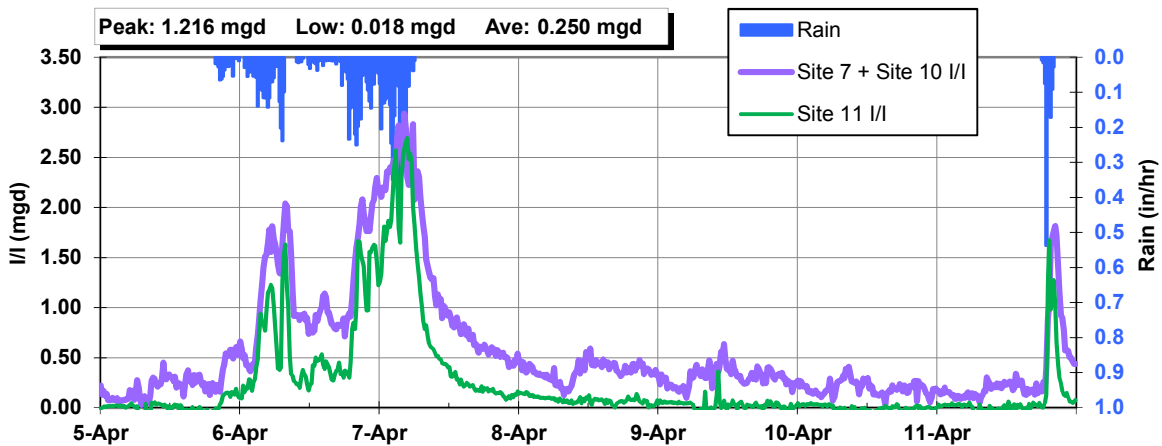

Figure 3-14. Site 7 + Site 10 I/I Analysis, Event 3
- Site 7, 10, and 11: at Site 11 there was one main effluent flowing at approximately 80% d/D, and another effluent/overflow that would have been activated at approximately 13 inches channel flow depth (Photo 3-7). This overflow most likely goes to Site 10 or may route back to Site 7. The flow data shows that some overflow went to Site 10; Site 7 has a truncated peak flow less than the upstream Site 11 flow (Figure 3-13). Using synthetic hydrographs of the previous and smaller rainfall I/I response makes it more apparent that this was not simply an attenuation effect and hypothesizes what Site 7 flows could have been if there was no overflow. Basin 7 and Basin 10 was combined for I/I analysis to gain insight into their I/I rankings (Figure 3-14).
- Only when Site 7 and Site 10 I/I were combined was the peak I/I rate higher than upstream Site 11 peak I/I rate (Figure 3-14). Basins 7 and 10 had a low inflow rate when isolated from Basin 11. If the overflow and upstream basin were not considered, Basin 10 could have been incorrectly interpreted as having a high 8.6 peak inflow per ADWF (placing 2nd).